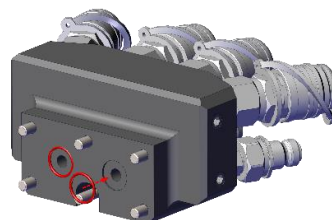

fig 3
4. Use a small amount of grease to hold the O-Rings to the manifold. (fig 3)